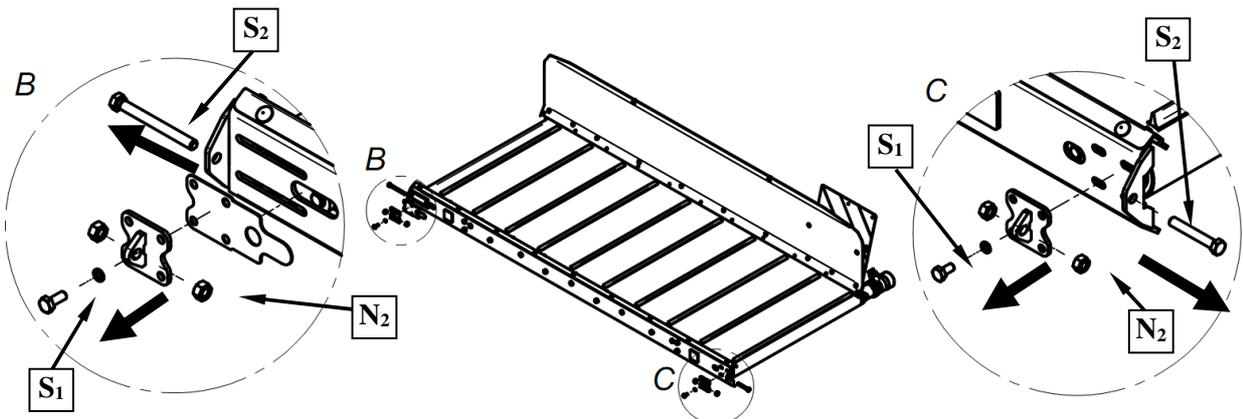

Fig. 44.
1. Loosen screws M10 – S₁, nuts M12 – N₂, adjustment screws M12 – S₂ of front tensioners (**Fig. 44**).